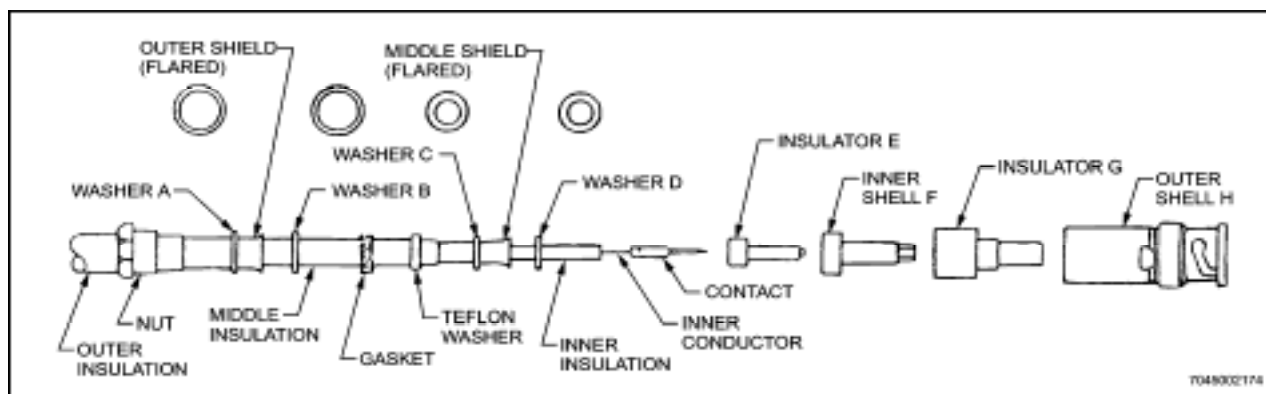
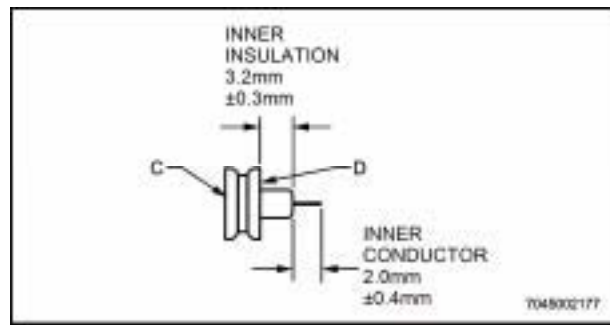

Figure 12-65 Triaxial Connector Assembly - Exploded View
Figure 12-68 Attaching Outer Shell to Gasket
53. When assembling triaxial cable connectors to wire or cable, refer to Figure 12-65 through to Figure 12-68.
- m. Cut inner insulation and inner conductor to dimensions shown in Figure 12-68.